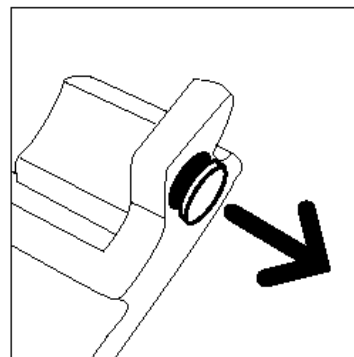

Figure 22: Removing the cap
- 5** Remove the gold cap from the front of the used Developer Waste Container, as illustrated in Figure 22.